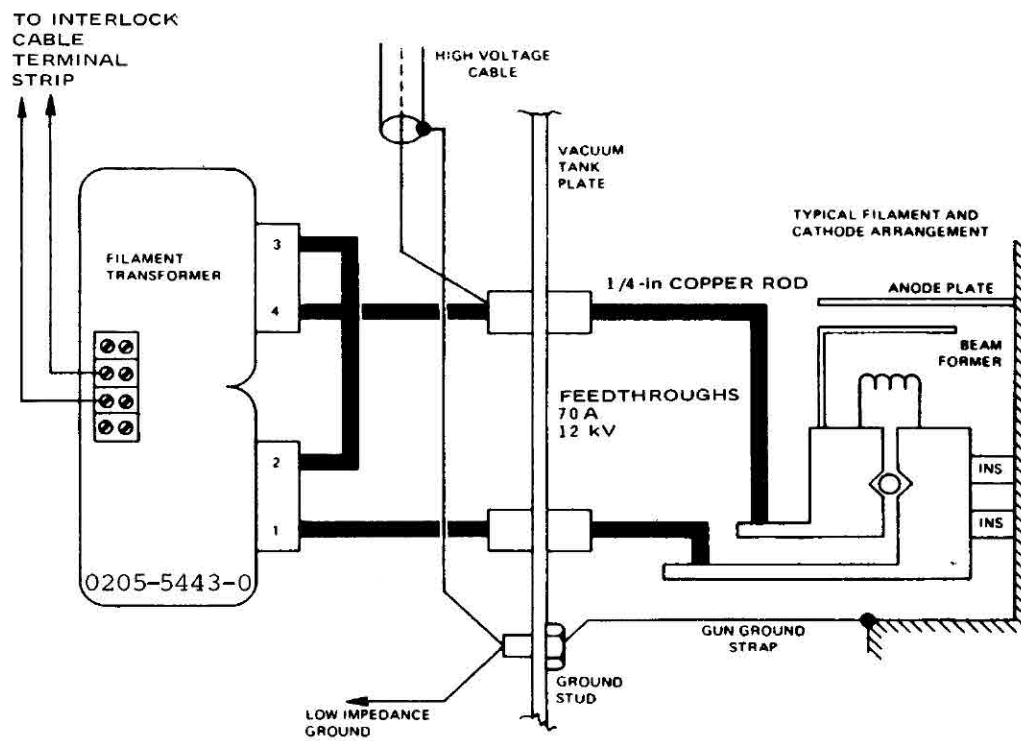

Figure 2-3. Filament transformer connection diagram
Under some conditions radio frequency energy is generated within the tank and is transmitted to the power supply through the high voltage and ground cables. It is therefore important that the ground return cable presents a low impedance to radio frequency energy. Inductance, rather than resistance, is the critical parameter. This low impedance ground return should be as short as possible and should not be coiled. Connect one end of the six-gauge ground lead to the same point on the tank as the earth ground is connected. The other end of this cable is connected to the low impedance ground stud at the lower rear of the power supply cabinet. The outer shield of the high voltage cable should also be connected to the tank ground as shown in figure 2-3.
2.3.4 Power Supply to Vacuum Tank Connections for CV-14 A and B (Figs. 2-3 and 2-4)